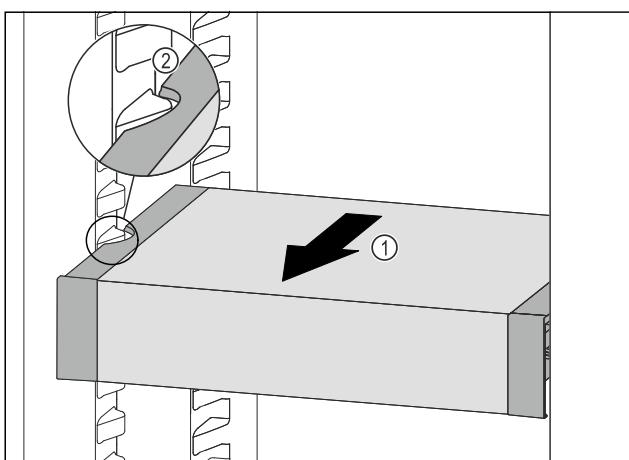

Fig. 113
► Pull VarioSafe forwards Fig. 113 (1) until the recesses in the side of the VarioSafe are at the level of the support rib in the fridge section. Fig. 113 (2)